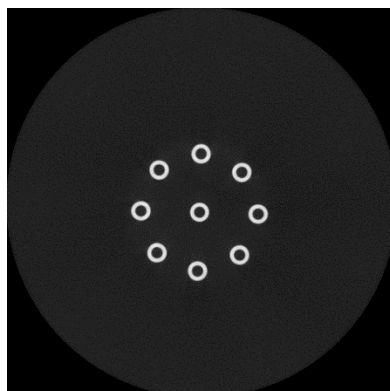

Figure1. Normal image
① Place CT Phantom on the provided tripod.
② Align using vertical and horizontal lasers such that the phantom is in line with center of rotation.
③ Select a Dental Arch, 0.2 voxel, 70kV, 10mA scan protocol in the CT scan program
④ Check whether there is no noise on the reconstructed image using 3D Viewer program as shown in figure 1 that there is no noise on the circle image of phantom.